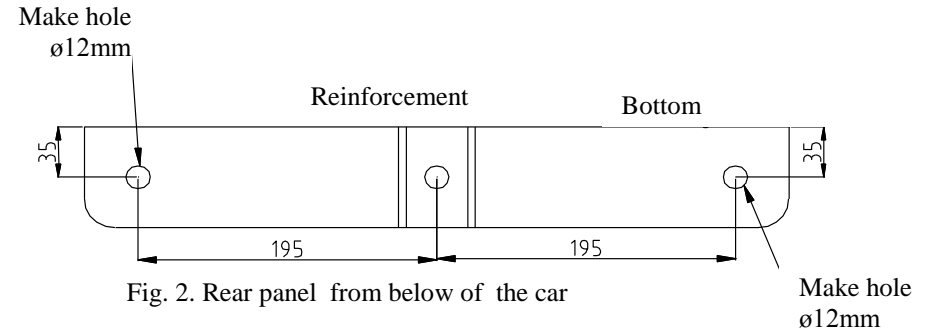

Fig. 2. Rear panel from below of the car
2. Drill two holes $\varnothing 12$ mm in the rear panel at the bottom of the car (see fig.2).
3. Position the element (pos. 1) to the chassis and fix it through the just made holes and towbars holes (pos. A) using M10x30mm pos. 9 (use also washers $\varnothing 42$ mm)
4. Drill $\varnothing 12$ mm through the towbars holes (pos. B) to the inside part of the boot, then position the elements (pos. 5) in the boot and fix it together using M10x30mm (pos. 9)